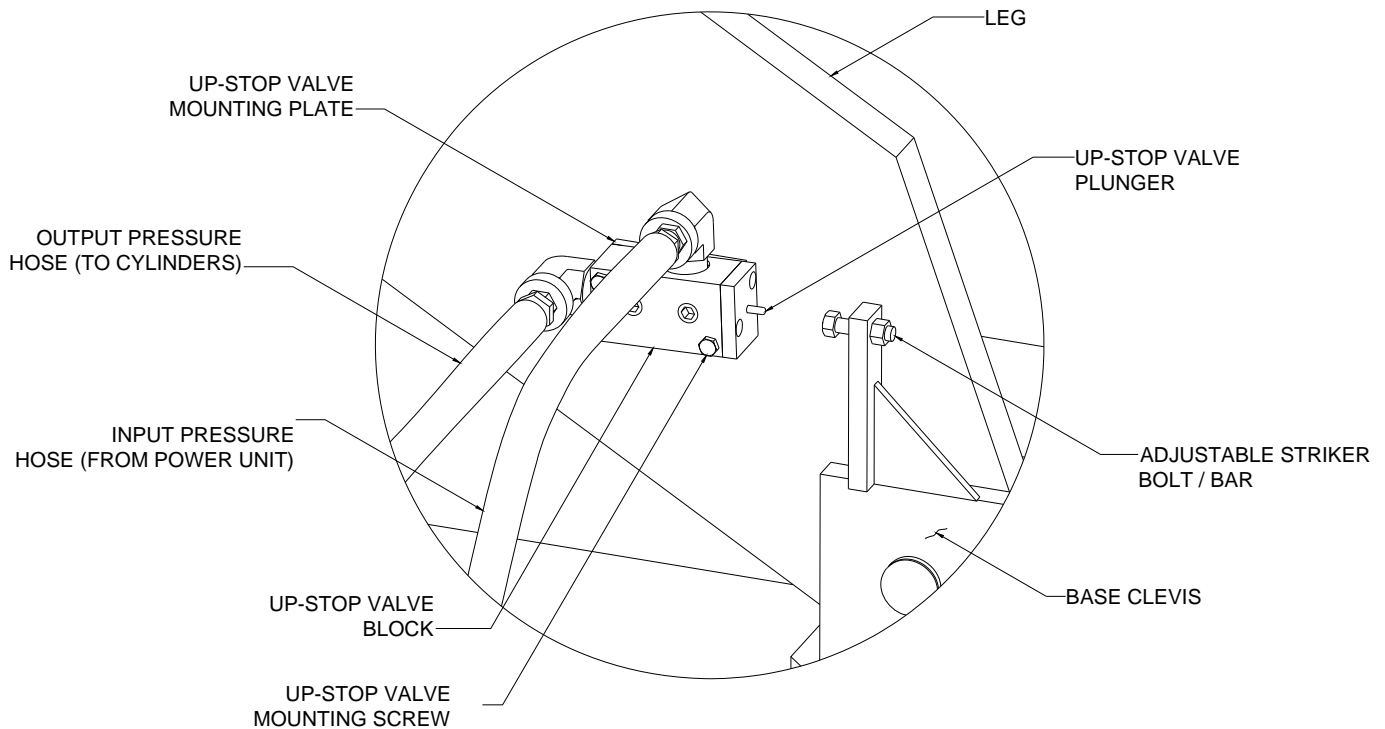

Figure 19 Up-Stop Valve System
G. ADJUSTING THE UP-STOP VALVE (Reference Figure 19)